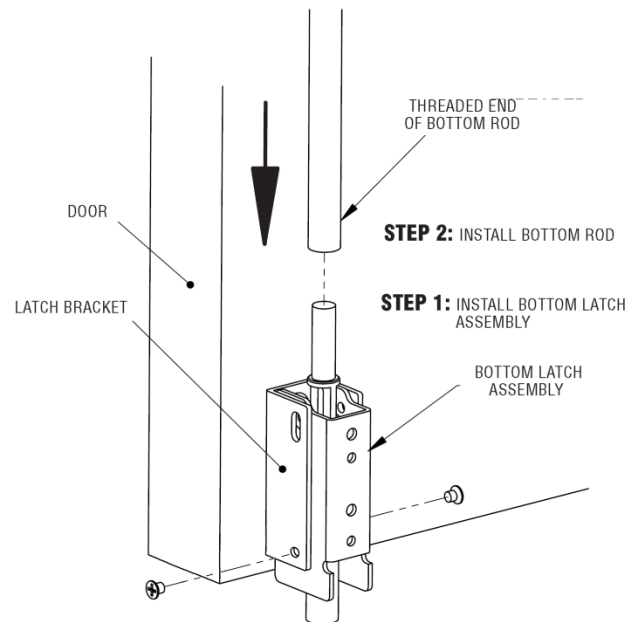

FIGURE 1
STEP 1: Install bottom latch assembly to bottom latch bracket using provided screws and bottom two holes in bracket (see figure 1).